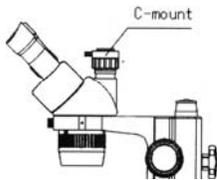

Fig.5
- (1) Adjust the CTV to a suitable position by rotating C-mount.
- Note:** The rang of the adjustment: 1~2mm in general. (Fig.5)